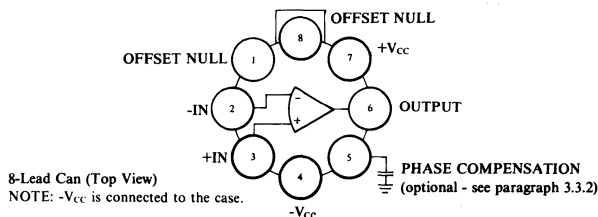

FIGURE 1. Terminal Connections.
3.2.7 Circuit diagram and terminal connections. The circuit diagram and terminal connections are shown in Figure 1.